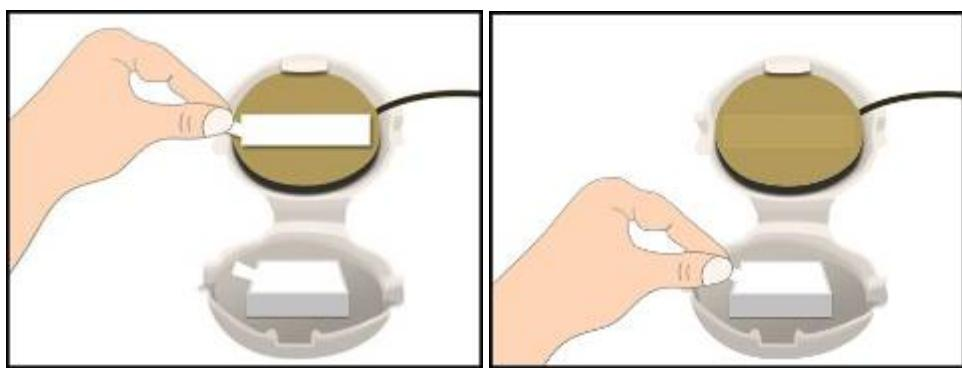

Figure 2: Adhesive strips removal
3. With the UroShield open, peel off the protective strips from both sides of the actuator. (Figure 2 below)